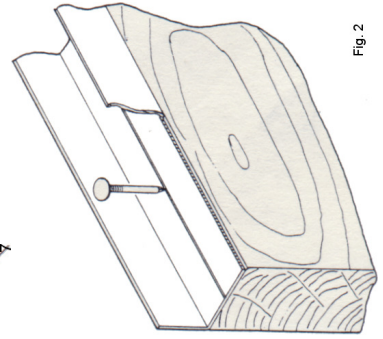

Fig. 2
- Attach (Item 7) door guide rail to bottom edge of last board between side channels. Attach using flat head nail (Fig. 2)